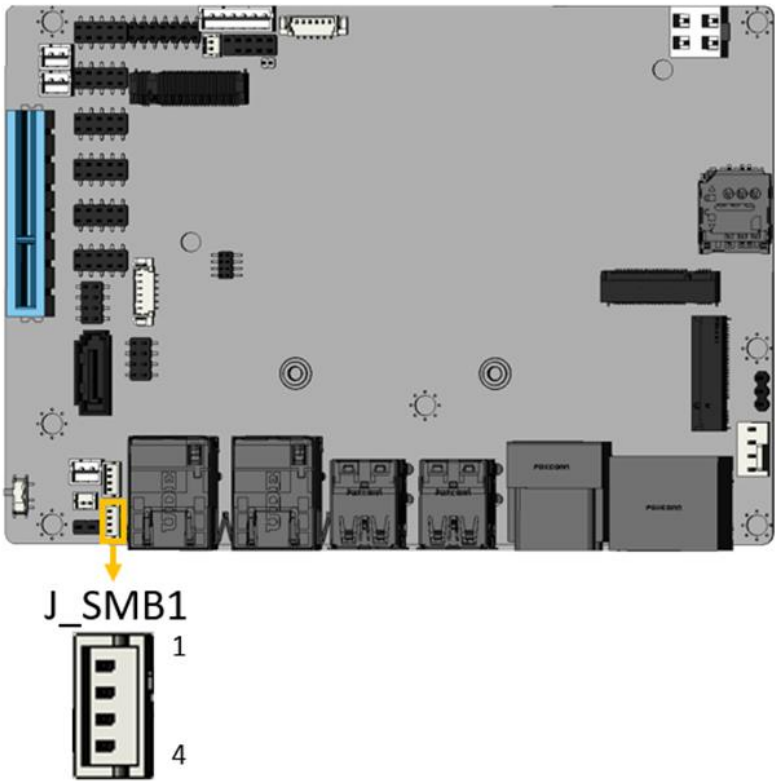

Figure 3-20: SMBus Connector Location
- CN Location: See Figure 3-20